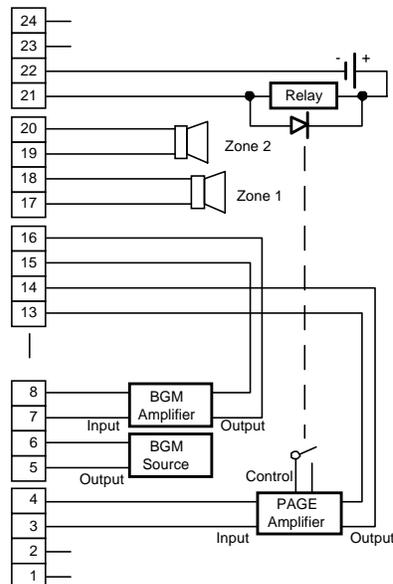

FIGURE 42. BGM THROUGH INDIVIDUAL PAGING ZONES
4. Connect the BGM external amplifier input to pins 7 and 8 BGM OUT on the punchdown block as illustrated in Figure 42.
5. Connect the speaker output of the external amplifier to pins 17 and 18 ZONE BGM IN on the punchdown block as illustrated in Figure 42. Connect the output from the punchdown block to one quick-connection type connector on the VS-MISC card.